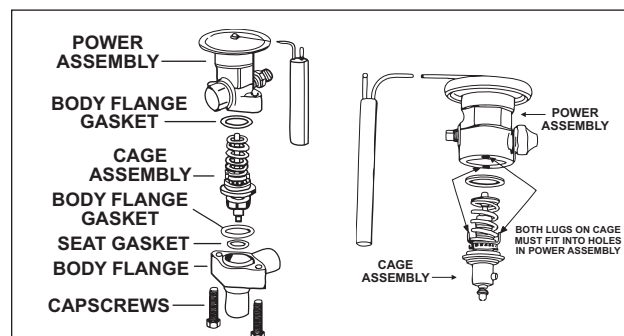

Figure 2
7. When putting the power assembly on, make sure the cage assembly lugs line up with the slots inside the power assembly (see figure 2).